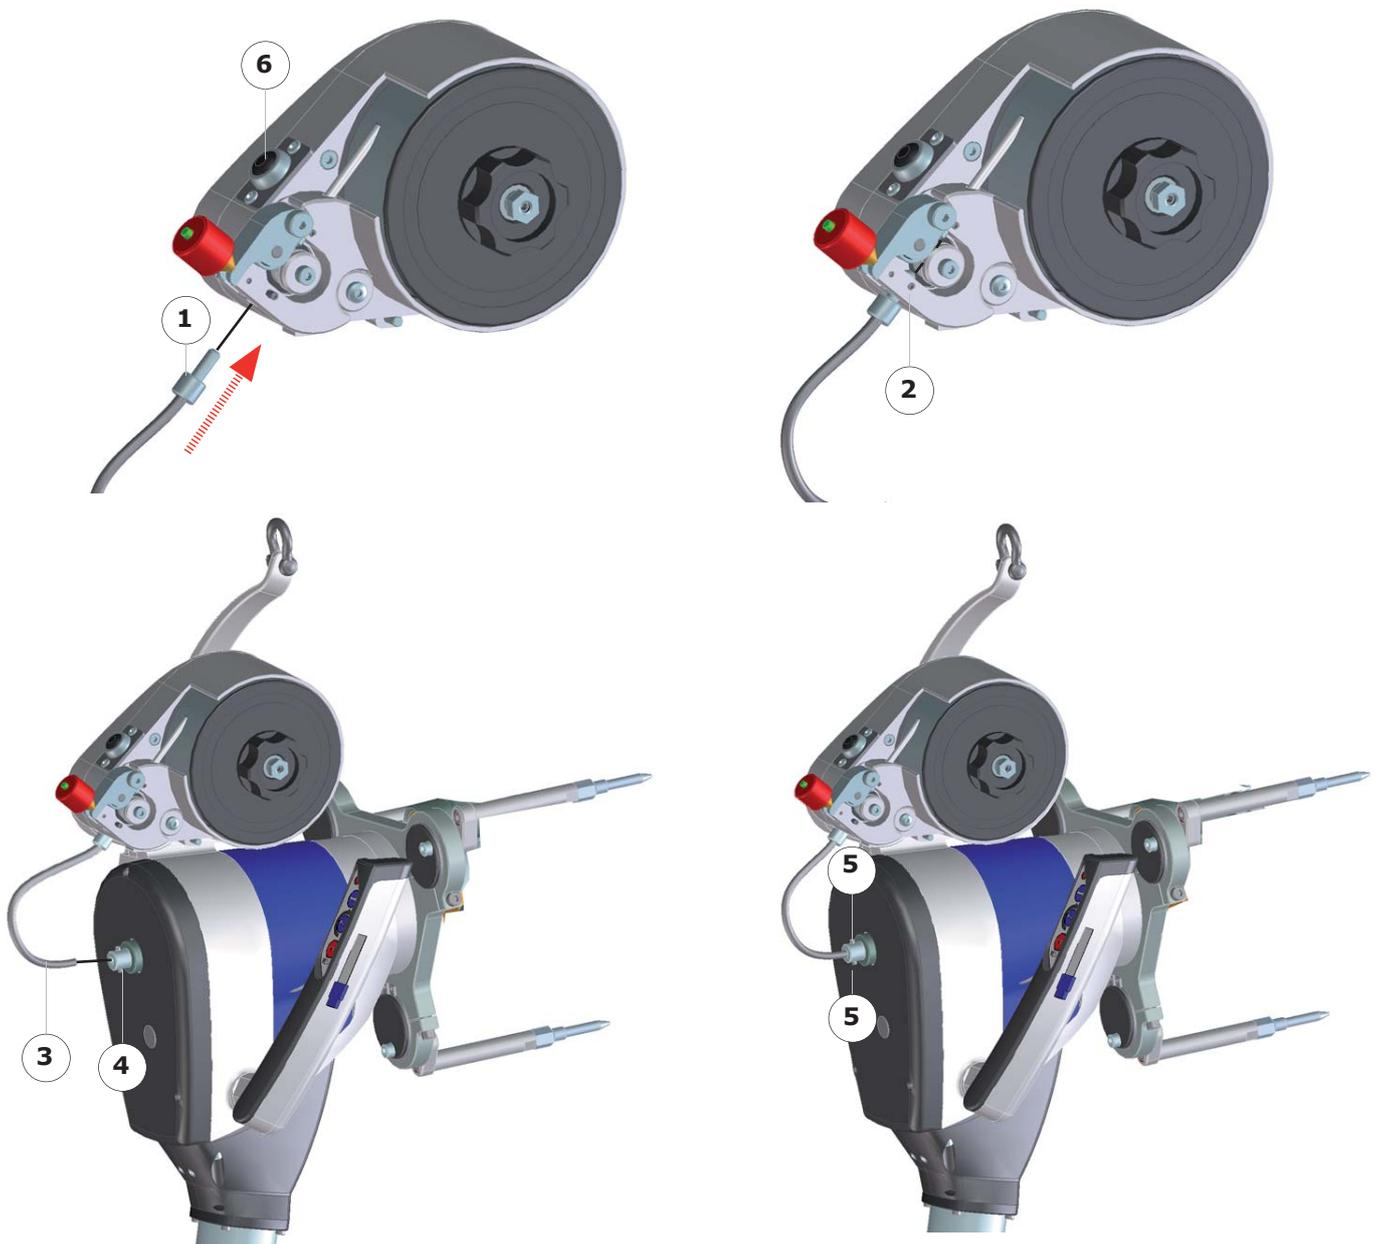

Fig.5.12 - Fitting the wire sheath
- Place the tip of the wire sheath (Fig.5.12 - 1) in its opening.
- Lock the wire sheath using the set screw (Fig.5.12 - 2).
- Press the pushbutton (Fig.5.12 - 6) to feed the wire.
- Insert the wire into the wire attachment (Fig.5.12 - 4).
- Place the wire sheath (Fig.5.12 - 3) into the wire attachment (Fig.5.12 - 4).
- Fasten the wire sheath using the 2 set screws (Fig.5.12 - 5).